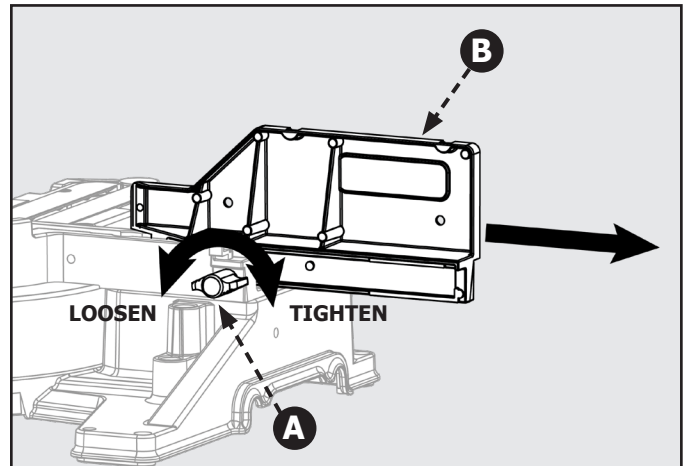

Figure 27
1. Loosen the fence lock knob (A). Slide the upper (adjustable) fence (B) completely out of its track and set to the side. See Figure 27.